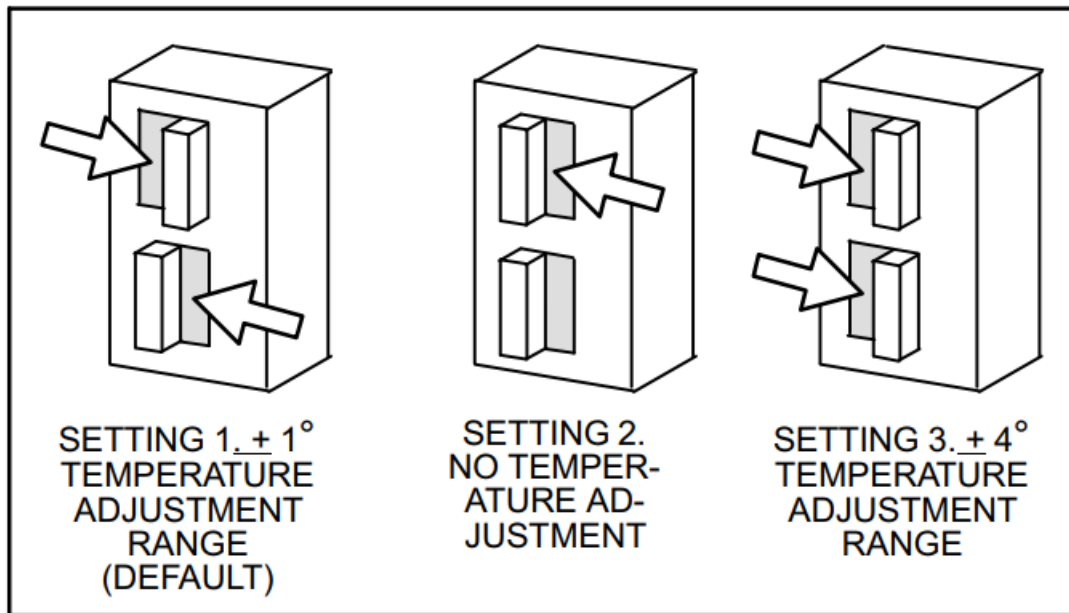

Figure 6. Warmer/Cooler Adjustment Range
7. 56L80 Only The sensor contains a warmer/cooler adjustment lever which allows a $\pm 1^{\circ}\text{F}$ set point shift. A DIP switch on the sensor base can be adjusted to increase the range to $\pm 4^{\circ}\text{F}$ or limit the range to no adjustment. See figure 4 for the DIP switch location and figure 6 to change the adjustment range.